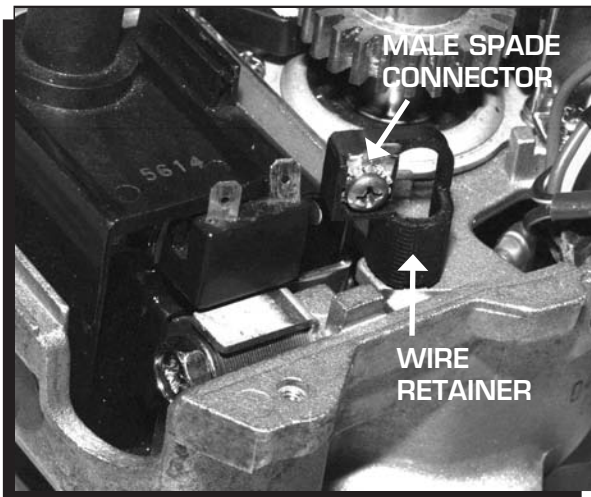

Figure 6 Installing the Wire Retainer.
4. Install the supplied wire retainer using the supplied 14mm Phillips screw in the location shown in Figure 6.